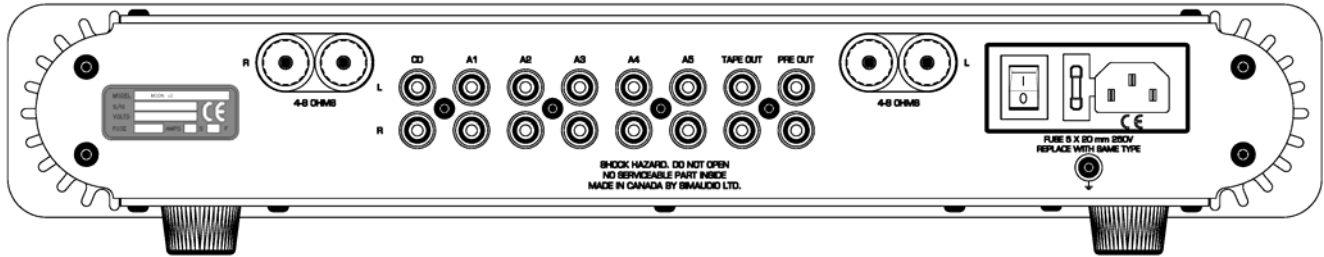

Figure 2: MOON i-3 SE Rear panel
The rear panel will look similar to Figure 2 (above). There are five (5) pairs of single-ended inputs on RCA connectors labeled CD, A1, A2, A3, A4 and A5. The left channel inputs are located on top and the corresponding right channel inputs are located directly below. The A4 input, as previously mentioned, bypasses the gain stage and is intended to be used with a component, such as a home theater processor, that has its own volume/gain control.